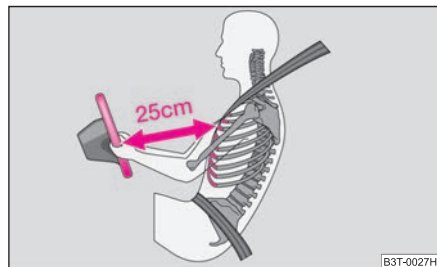

Fig. 157 Safe distance to steering wheel
- For the driver and front passenger it is important to maintain a distance of at least 25 cm from the steering wheel or dash panel ⇒ **fig. 157**. Not maintaining this minimum distance will mean that the airbag system will not be able to properly protect you – hazard! The front seats and the head restraints must always also be correctly adjusted to match the body size of the occupant.